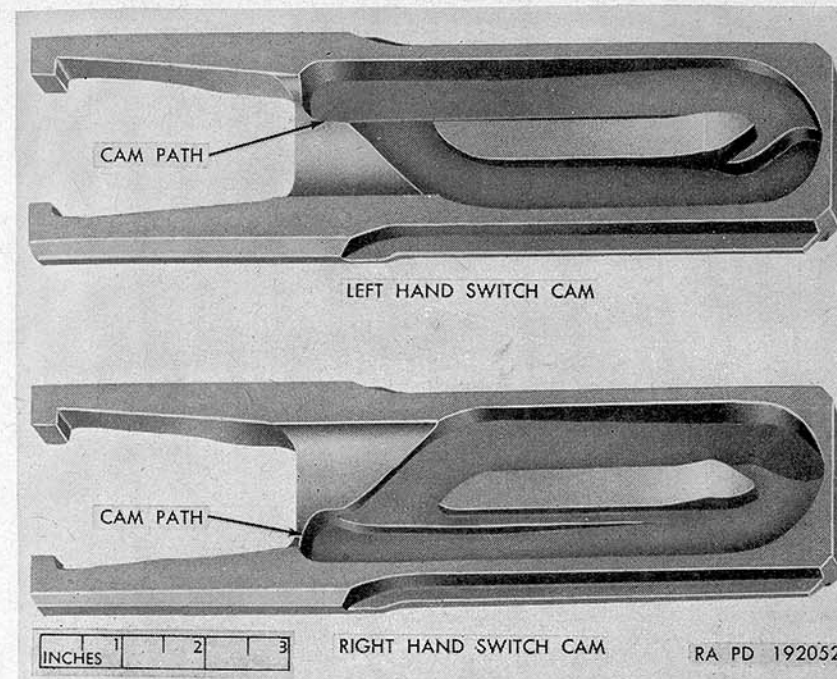

Figure 12. Comparison of left-hand and right-hand switch cams.
h. Switch Cam. The left-hand and right-hand switch cams are shown in figure 12. The right-hand switch cam can be identified by having the straight portion of its cam path on its left side. The left-hand switch cam has it on the right side.
- (1) Install the left-hand switch cam and converted operating slide in the ways of the receiver (par. 82).
- (2) Install the altered drum cradle group in the receiver (par. 76).
- (3) Install the drum assembly in the drum cradle (par. 70).
- (4) Install the left-hand feeder assembly on the receiver (par. 60).
- (5) Install the operating springs and receiver end plate group (par. 64).
- (6) Install barrel assembly (par. 54).